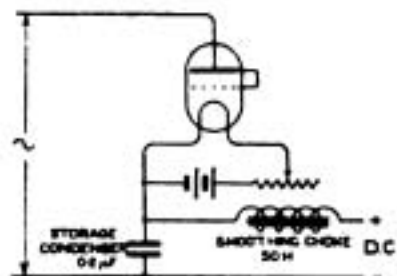

Fig. 10.
(2) Yes.
(3) See the diagram, Fig. 10. The battery must